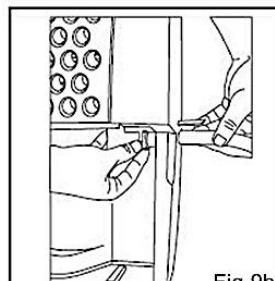

Fig 9b
- Grip the hose from inside the unit and screw the hose onto the threaded portion of the tray located in the bucket opening.(Fig.9b)